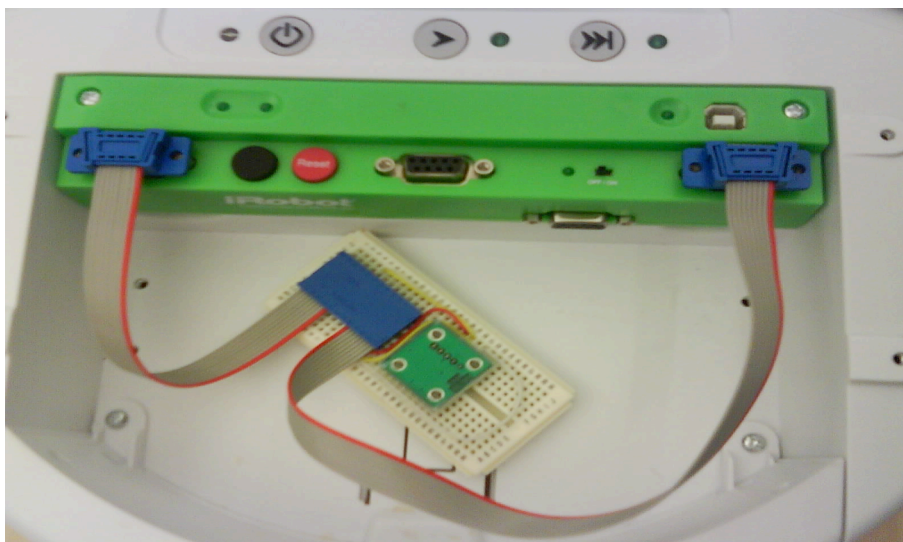

Figure 5. Accelerometer board
2. In lab you will be given an accelerometer attached to a breadboard along with connectors to allow you to connect it to the command module ports. It will look something like figure 5.